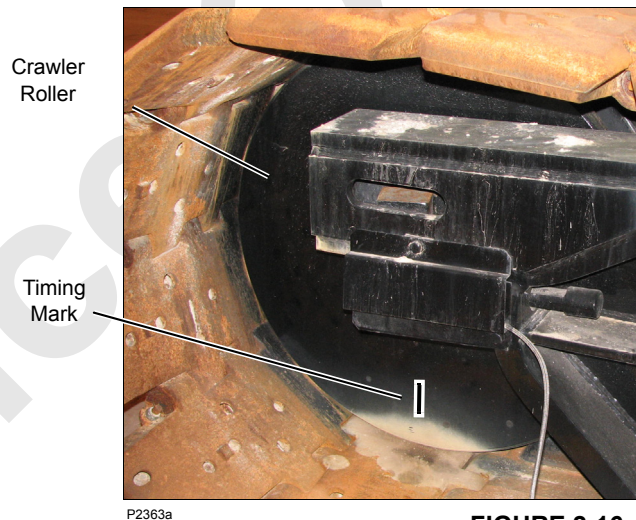

FIGURE 2-16
1. Put a timing mark on crawler roller at front of one crawler and at rear of other crawler (Figure 2-16).